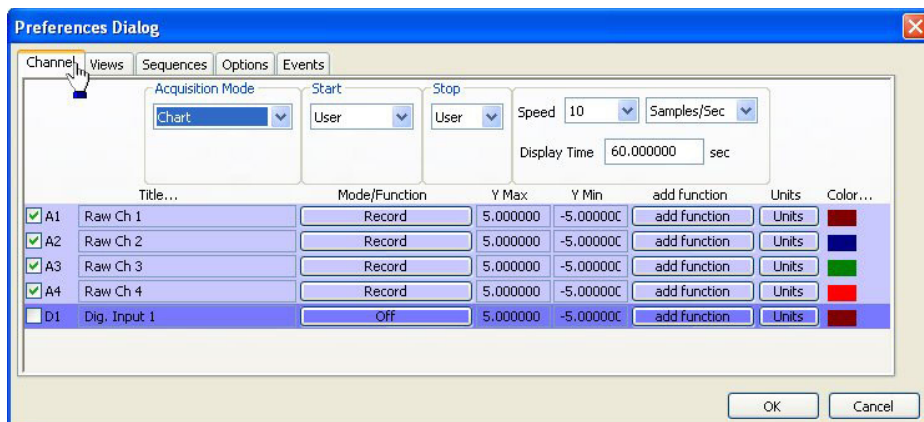

Fig. 39—Preferences Dialog window, Channel Tab
- Select the **Channel** tab from the **Preferences Dialog** window (Fig. 39). A list of channels displays in the bottom half of the window. A1 represents channel one, A2 represents channel 2, etc. A check in the checkbox next to a channel indicated that it is selected to receive data input. Each field on the table is configurable.